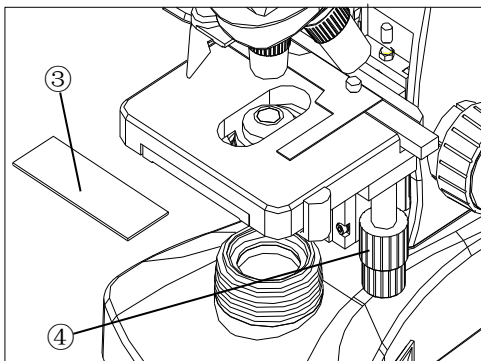

Fig.17
3.3.2 Placing Specimen (Fig.17)